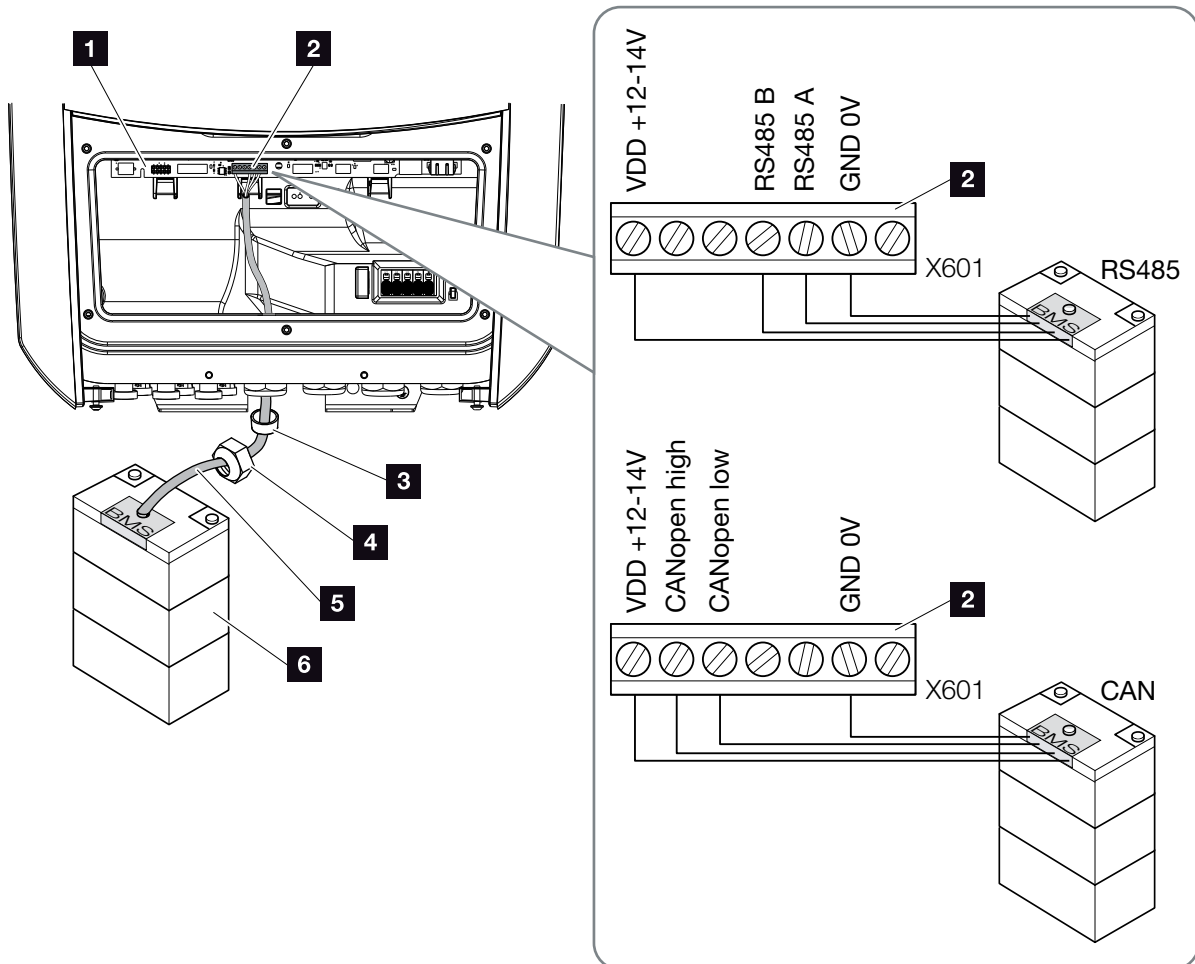

Fig. 36: Battery communication connection via RS485 or CAN
3. Connect communication cable (RS485 or CAN) to communication interface of Smart Communication Board.  **Fig. 36 It. 2**